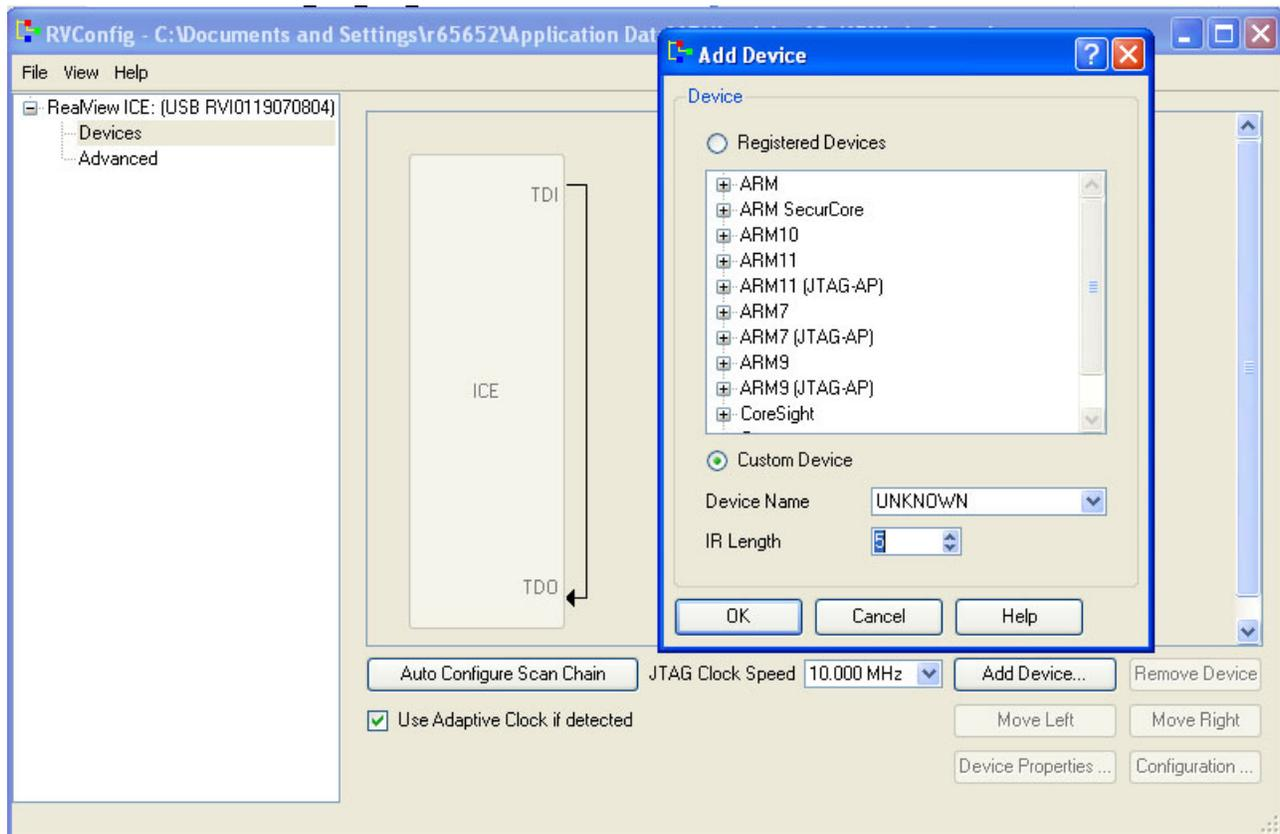

Figure 2-1. Example of adding a device
2. Using the order shown below, configure the scan chain with the following connections: TDI → Unknown → Unknown → ARMCS-DP → Cortex-A8 (see Figure 2-1).